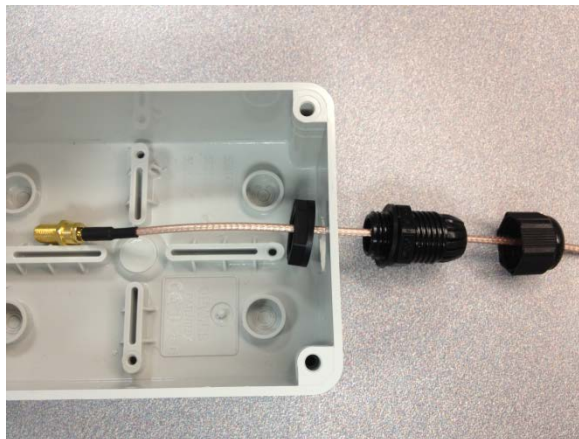

Figure 6-2 Outdoor installation; mounting the radio antenna and water-tight grommet assembly in a plastic junction box
2. If the antenna is to be mounted *outside*, thread the extension cable through the grommet and into the box. An example is shown in Figure 6-2, though note that the exact cable received from Power-One may vary in color and in other details. The box and grommets will be those supplied by the customer.